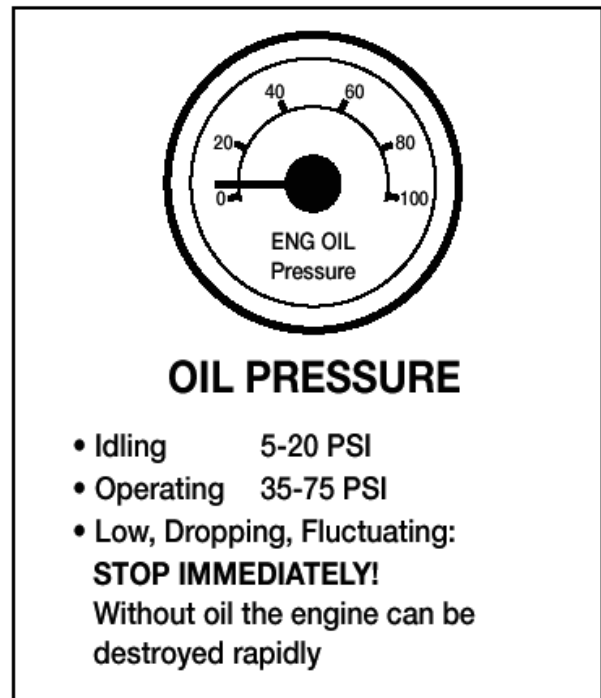

Figure 2.5
- Oil pressure - Should come up to normal within seconds after engine is started. See Figure 2.5